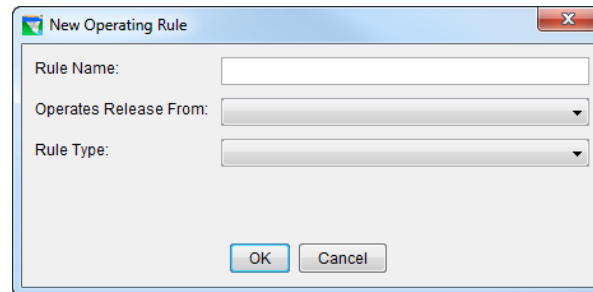

Figure 30: New Operating Rule
- On the **Lookback** tab [Section 13.7], select the initial conditions **Type** (Times-Series or Constant) from the list for each Location listed, as shown in Figure 30. This is similar to selecting the operation set per reservoir. For **Variables** defined as Constants, enter a constant **Value** for the Elevation or Release.